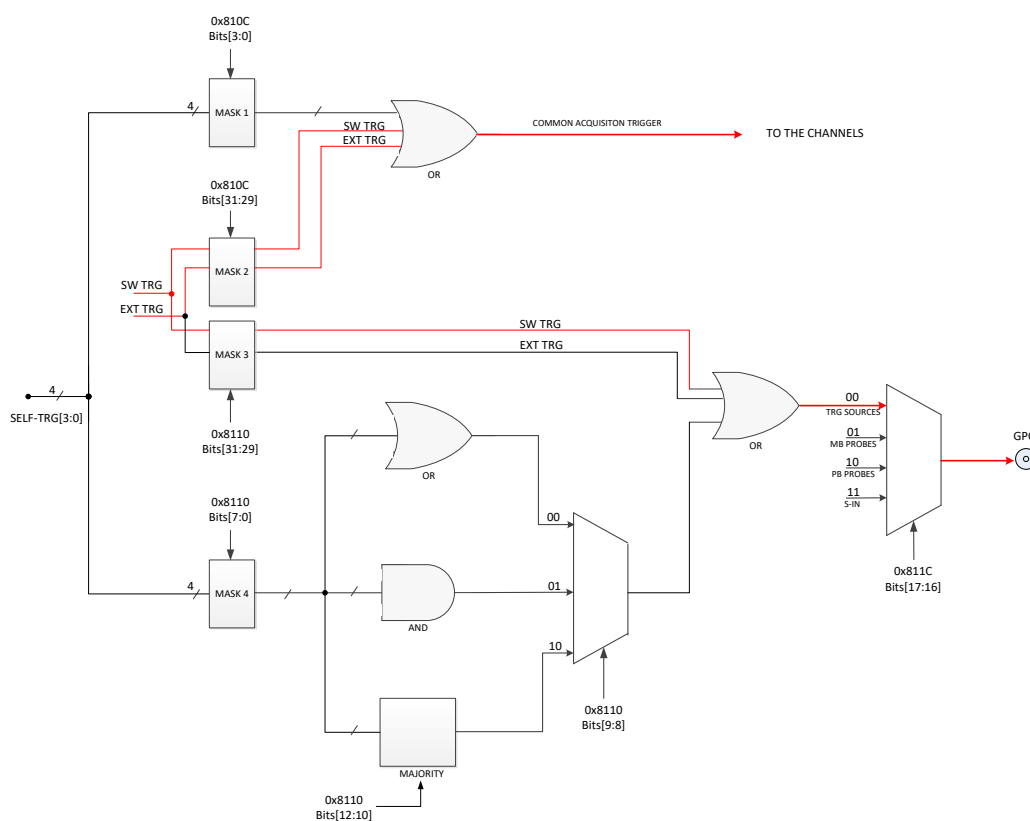

Fig. 8.18: Trigger configuration of TRG-OUT front panel connector.
As described in Sec. **Trigger Management**, the OR of all the enabled trigger sources, synchronized with the internal clock, becomes the common trigger of the board that is fed in parallel to all channels, consequently causing the capture of an event. By default, only the Software Trigger and the External Trigger participate in the common acquisition trigger (refer to the red path on top of Fig. 8.18).
- the OR of all the enabled trigger sources (only the Software Trigger is provided by default, as in the red path of Fig. 8.18);